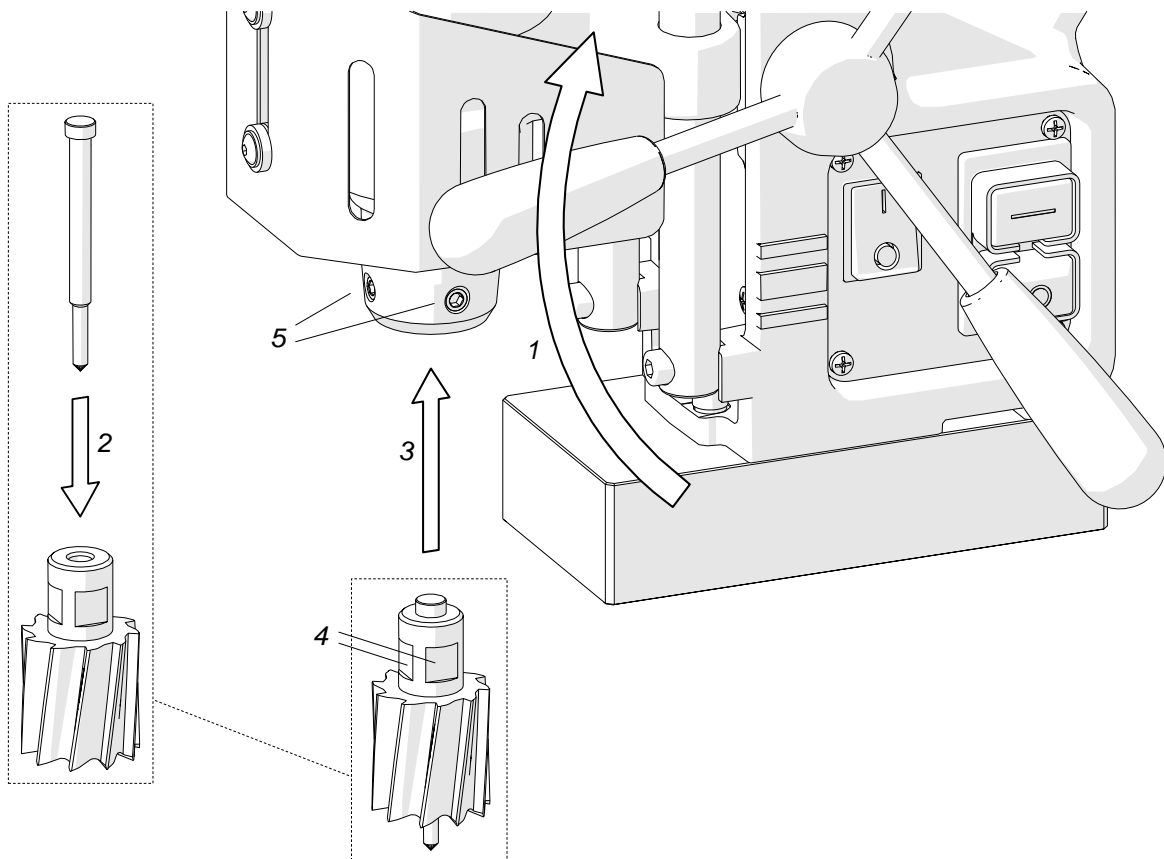

Fig. 1. Installing the annular cutter
Unplug the machine from the power source, and then rotate the handles to the right (1, Fig. 1) to raise the motor. Wear protective gloves, insert the proper pilot pin into the annular cutter (2), and then use a clean and dry cloth to wipe the arbor and cutter. Next, insert the cutter into the arbor (3) so that the flats 4 are aligned with the set screws 5, and then use the 4 mm hex wrench to tighten both set screws.